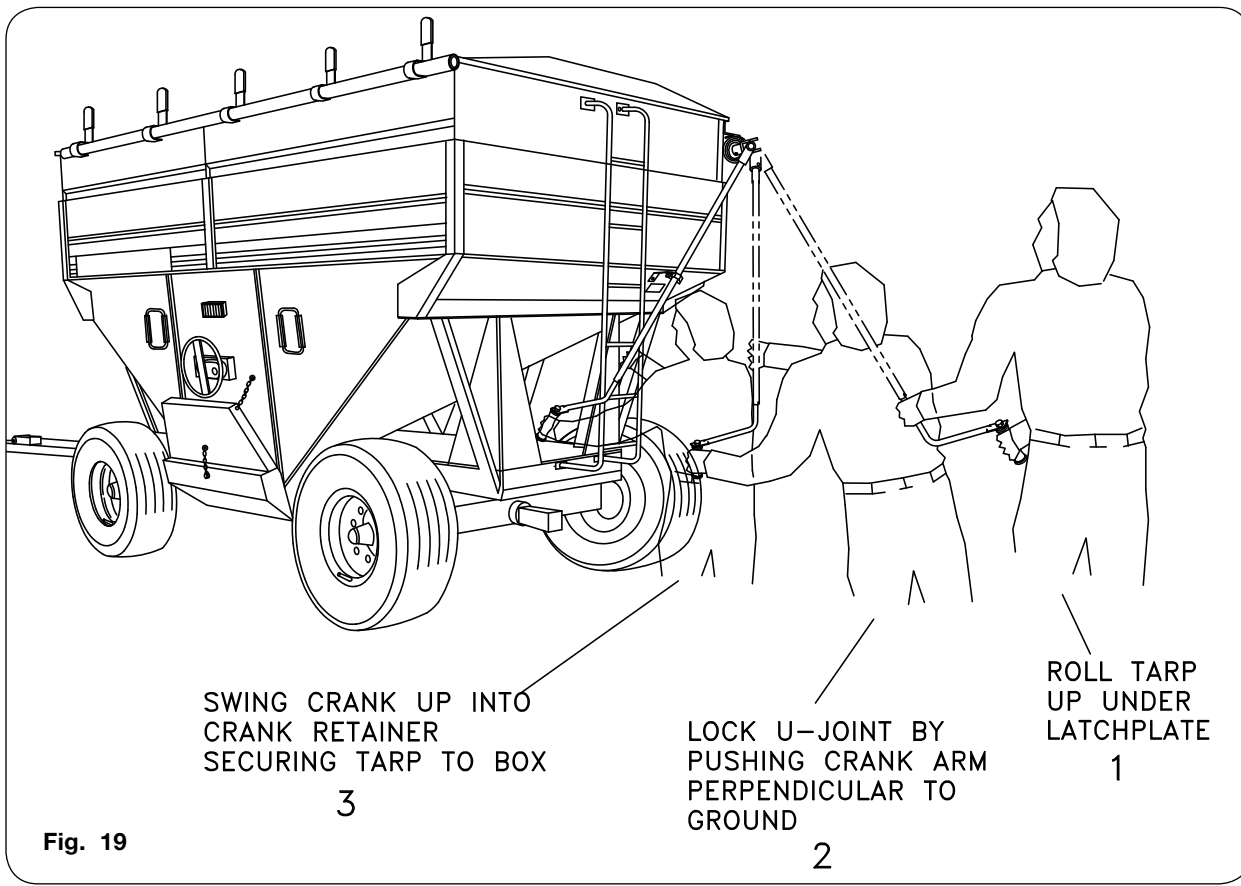

Fig. 19
16. Tighten tarp by holding the crank handle firmly with both hands and roll the main tarp tube counter-clockwise up under the latch plate. Next, bring the crank handle down perpendicular to the ground. Continue by lifting it up into the crank handle retainer. See Fig. 19.